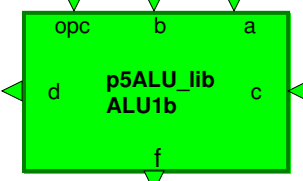

Figure 2: The symbol of the 1-bit ALU component
- Edit (and save) the symbol to look similar to the one in Figure 2.